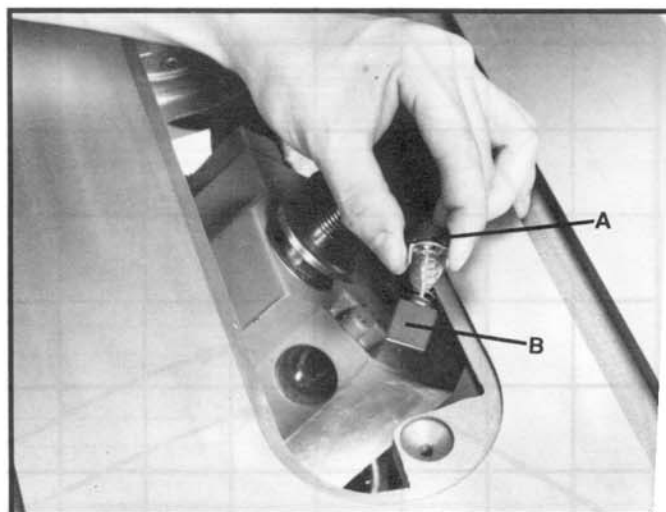

Fig. 48
3. Fig. 48, illustrates the brush holder (A) and brush (B) removed for inspection. When the carbon on the brush (B) is worn to 3/16" in length or if either the spring or shunt wire is burned or damaged in any way, replace both brushes. If the brushes are found serviceable after removing, reinstall them in the same position as removed.